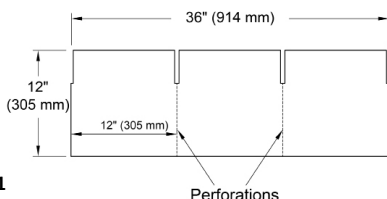

Figure 1
3. **Separate each piece of Timbertex® Ridge Cap Shingle...** into three individual Ridge Cap Shingle pieces at pre-scored perforations (see Figure 1).